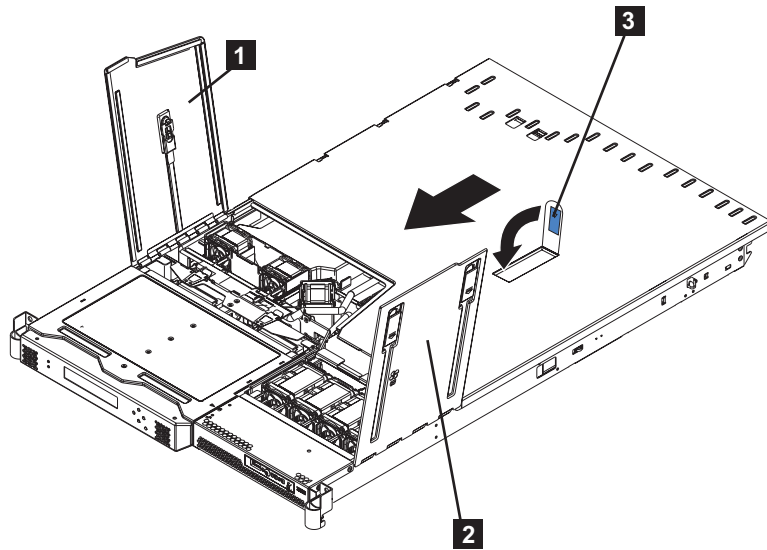

Figure 172. SAN Volume Controller 2145-8F2 with the fan doors open
3. Open the fan door where the failed fan resides. Fans 1, 2, and 3 are under fan door A **1**. Fans 4 through 7 are under fan door B **2**, as shown in Figure 172.